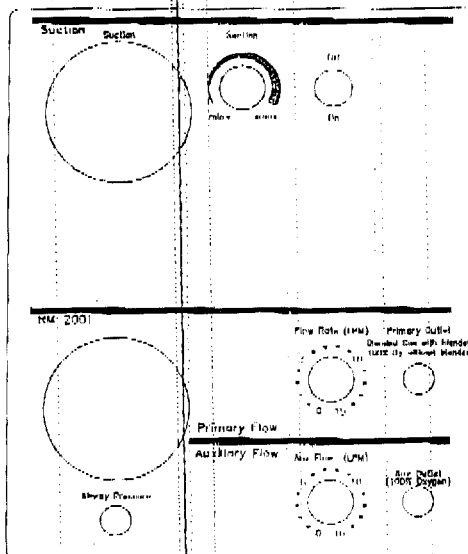

FIGURE 4.13 RESUSCITATION MODULE 2001
3. Attach the Skin Temperature Probe to the infant. The probe should be located on the infant's abdomen, halfway between the xiphoid and the umbilicus (Figure 4.13). The metal side of the probe should be placed in direct contact with the skin (when using the reusable probe).